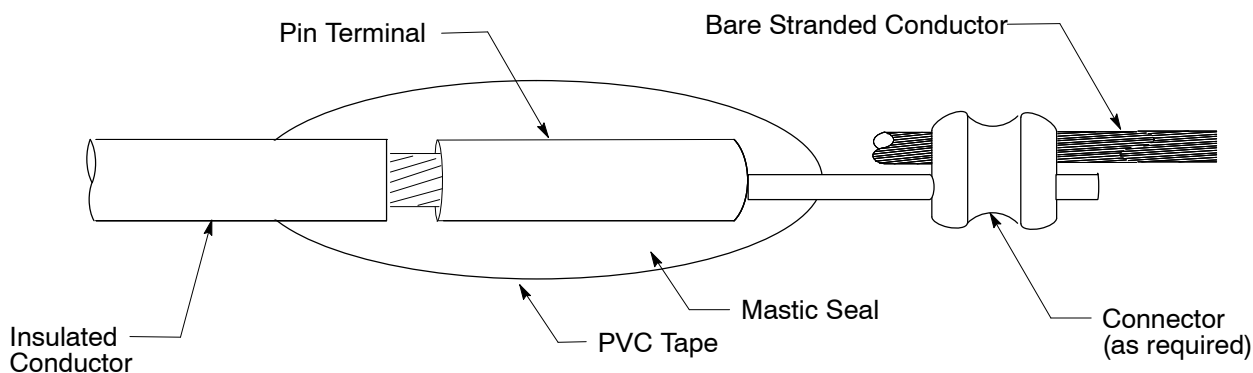

Figure 1
10. Special care must be used to prevent moisture from entering through the copper strands when connecting a bare stranded copper conductor to an insulated aluminum conductor (e.g., copper-to-aluminum neutral connection). See Figure 1 below for these connections.